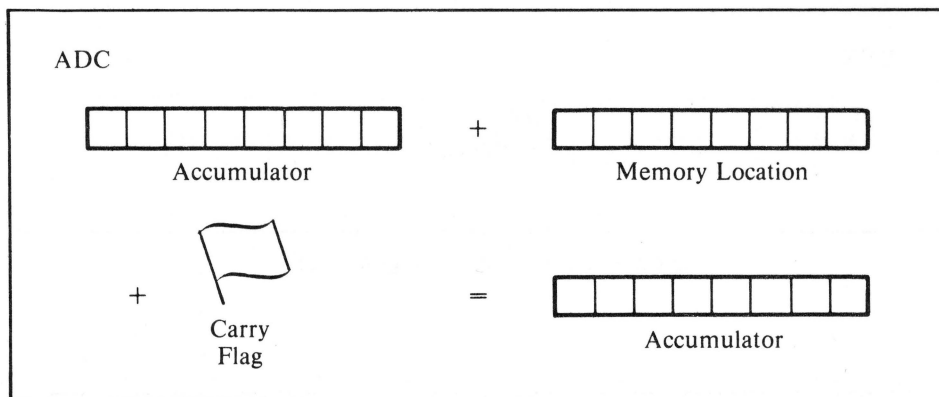

Figure 9-9. Add accumulator, memory, and Carry flag
- **ADC** — Adds the contents of the accumulator to the value contained in a specified memory location, then adds the value of the Carry flag to that, and leaves the result in the accumulator (see Figure 9-9).